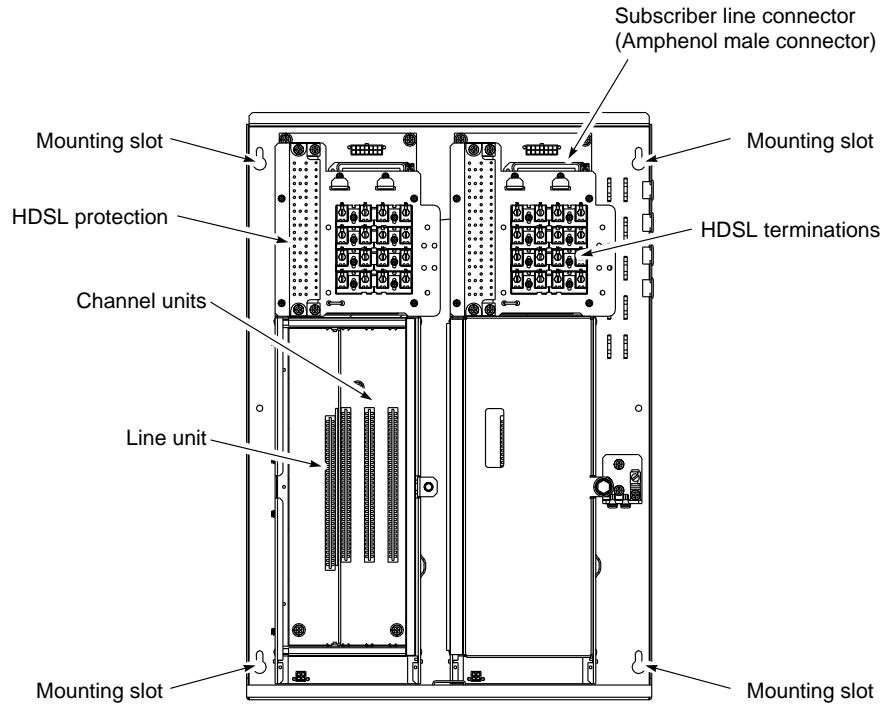

Figure 4. FRE-868 RT Enclosure
- 2 Connect the HDSL pairs to the HDSL Terminations (see Figure 4).
- 3 Connect a female Amphenol-ended subscriber cable to the subscriber line connector (not supplied) (see Figure 4).